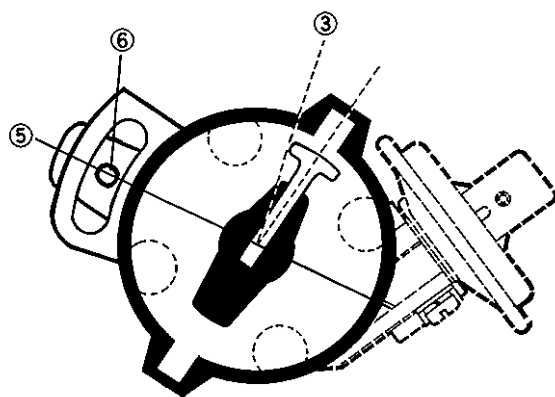

Fig. 8-18
- (2) Remove the distributor cap, and check to be sure that edge face ③ of the rotor is in the position indicated in Fig. 8-18; if not, reposition the distributor housing to create the indicated positional relationship.